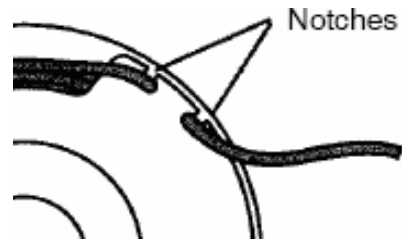

Fig. 24
6. Lock the ends of the lines in the notches of the spool. (Fig.24)